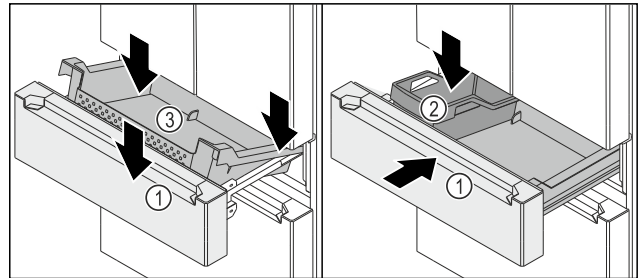

Fig. 162
- The pull-out cart Fig. 162 (1) is pulled out.
- Place the container Fig. 162 (3) to the back on the right and left rails.
- Lower the container Fig. 162 (3) at the front so that the container Fig. 162 (3) encloses the rails on the right and left.
- Insert the FlexBox Fig. 162 (2).
- Push in Fig. 162 (1) the pull-out cart.